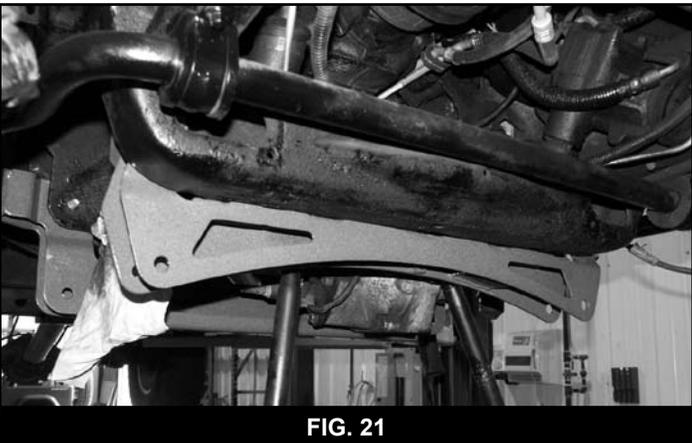

FIG. 21
47. Install the front crossmember in the OE front lower control arm pockets (# 01136). Attach with the OE lower control arm hardware, running the bolts from the rear to the front. Leave loose (Fig. 21). Note: Before installing the crossmember, be sure that the inside surfaces of the OE lower control arm pockets are free of burrs. Commonly, the OE bolts and washers stretch the mounting holes when installed and leave a rolled edge that could hinder the installation of the new crossmember. These edges can be smoothed with a file or rotary grinding tool.